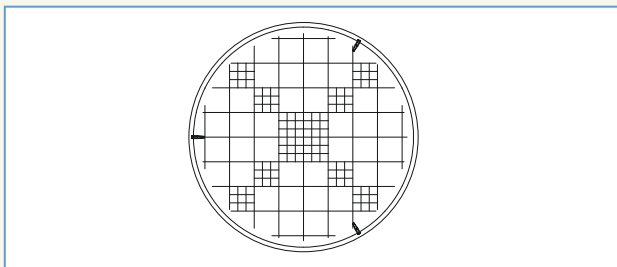

Figure 1: Graduation of the germ count dish
- Graduation and division into 10 mm squares to enable quick and easy analysis (Fig. 1)